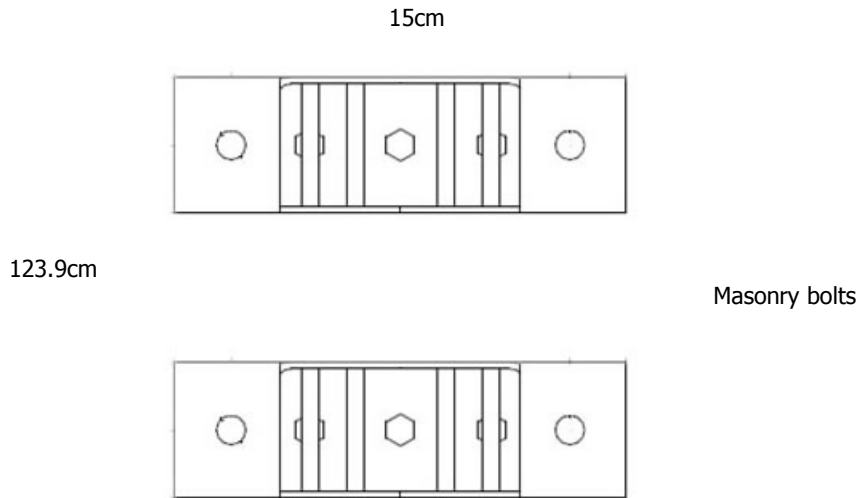

Figure 2-3. GX Mounting Brackets
2. Using the upper and lower brackets for reference (see diagram in *Figure 2-3*)